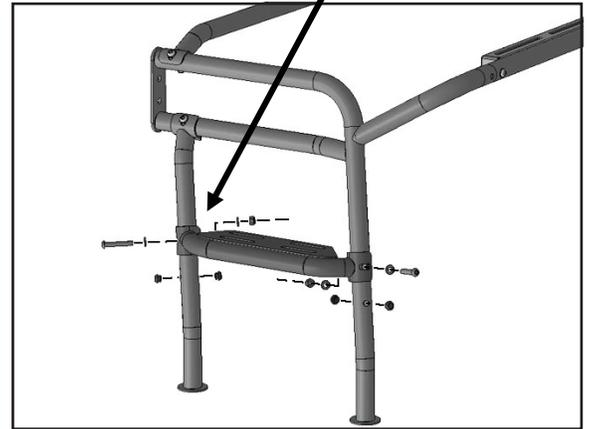

FIGURE 20
14. Select the driver/left Rear Corner Tube Assembly and driver/left Support Tube. Attach the Support Tube to the Corner Assembly with (1) 8mm x 50mm Button Head Bolt, (2) 8mm x 16mm Small Flat Washers and (1) 8mm Nylon Lock Nut, **(FIGURE 19)**. Next, attach the driver/left Ladder Step to the two tubes with the included (2) 8mm x 50mm Button Head Bolts, (4) 8mm x 16mm Small Flat Washers and (2) 8mm Nylon Lock Nuts, **(FIGURE 20)**. **NOTE:** There are (2) sets of mounting holes to choose from for the Step, use the included (4) Plugs to seal off unused mounting holes. Repeat this **Step** to assemble the passenger/right Corner Assembly and Step.